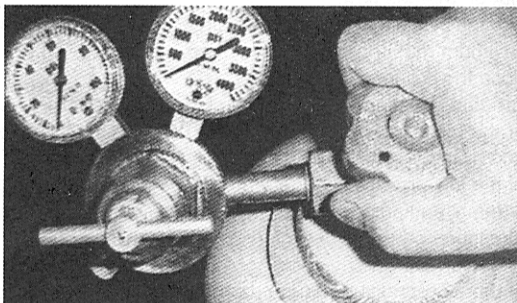

Figure 4
5. Slowly and carefully open the cylinder valve (See Figure 4) until the maximum pressure shows on the high pressure gauge.